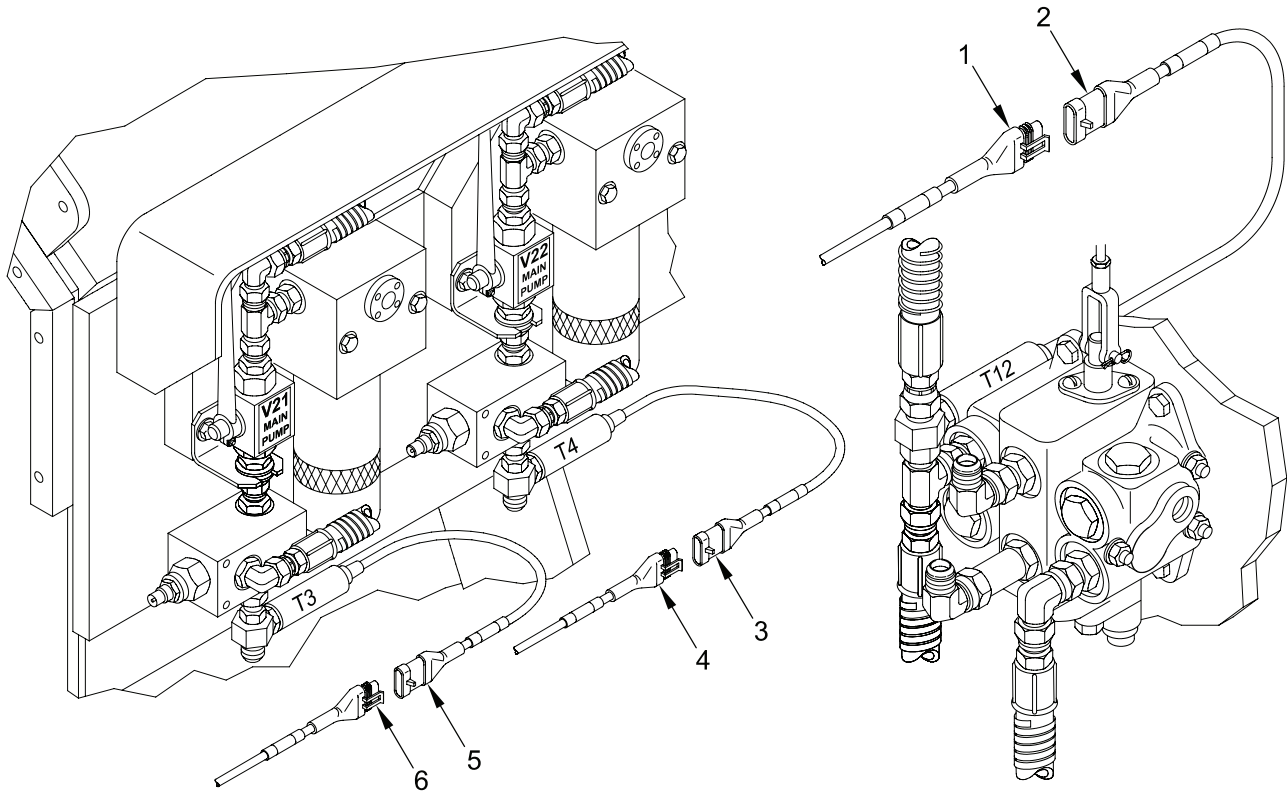

Figure 5. Installing Wiring Harness W2 To Filter Area
- At the main hydraulic pump left and right high-pressure filter area connect wiring harness W2 connector P3 (Figure 5, item 6) to transducer T3 (Figure 5, item 5), wiring harness W2 connector P4 (Figure 5, item 4) to transducer T4 (Figure 5, item 3), and wiring harness W2 connector P30 (Figure 5, item 1) to transducer T12 (Figure 5, item 2).